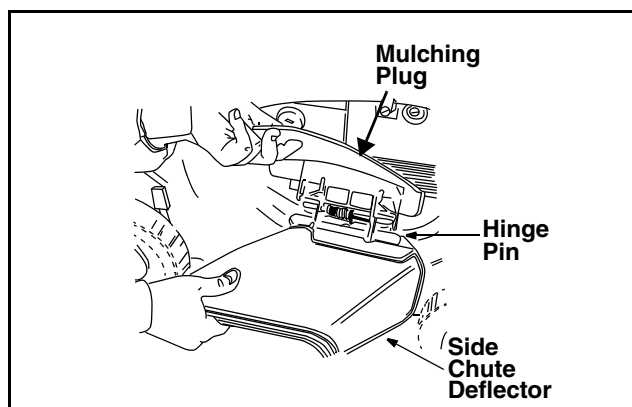

Figure 9
- Your mower has been shipped as a mulcher. To convert it to a side-discharge mower, lift the mulching plug. Slide the two hooks on the side-discharge deflector under the hinge pin on the mulching plug assembly. Lower the mulching plug. See Figure 9.